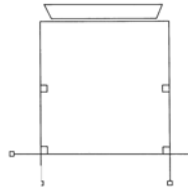

Fig 2 Layout the posts - note spacing as shown.
- Lay out the positions for the posts in lines every 1800mm out from the house at 1500mm centres (Fig 2).